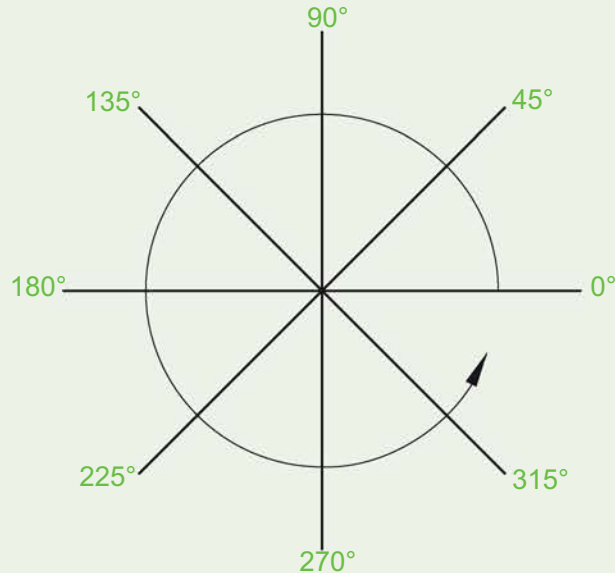

Fig. 3.8 The counterclockwise direction of measuring angles in AutoCAD
6. The next example (the fourth) shows how lines at angles can be drawn taking advantage of the relative coordinate entry method. Angles in AutoCAD are measured in 360 degrees in a counterclockwise (anticlockwise) direction (Fig. 3.8). The < symbol precedes the angle.